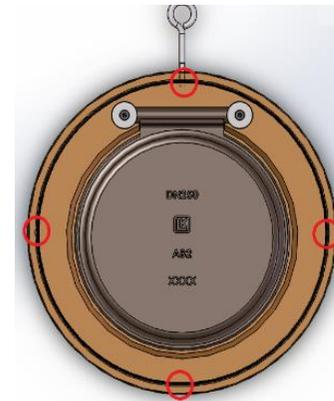

Figure 1, Where to push down the O-ring.
2. Push the O-ring into the valve body at 3, 6, 9 and 12 o'clock and hold it into place (see figure 1).